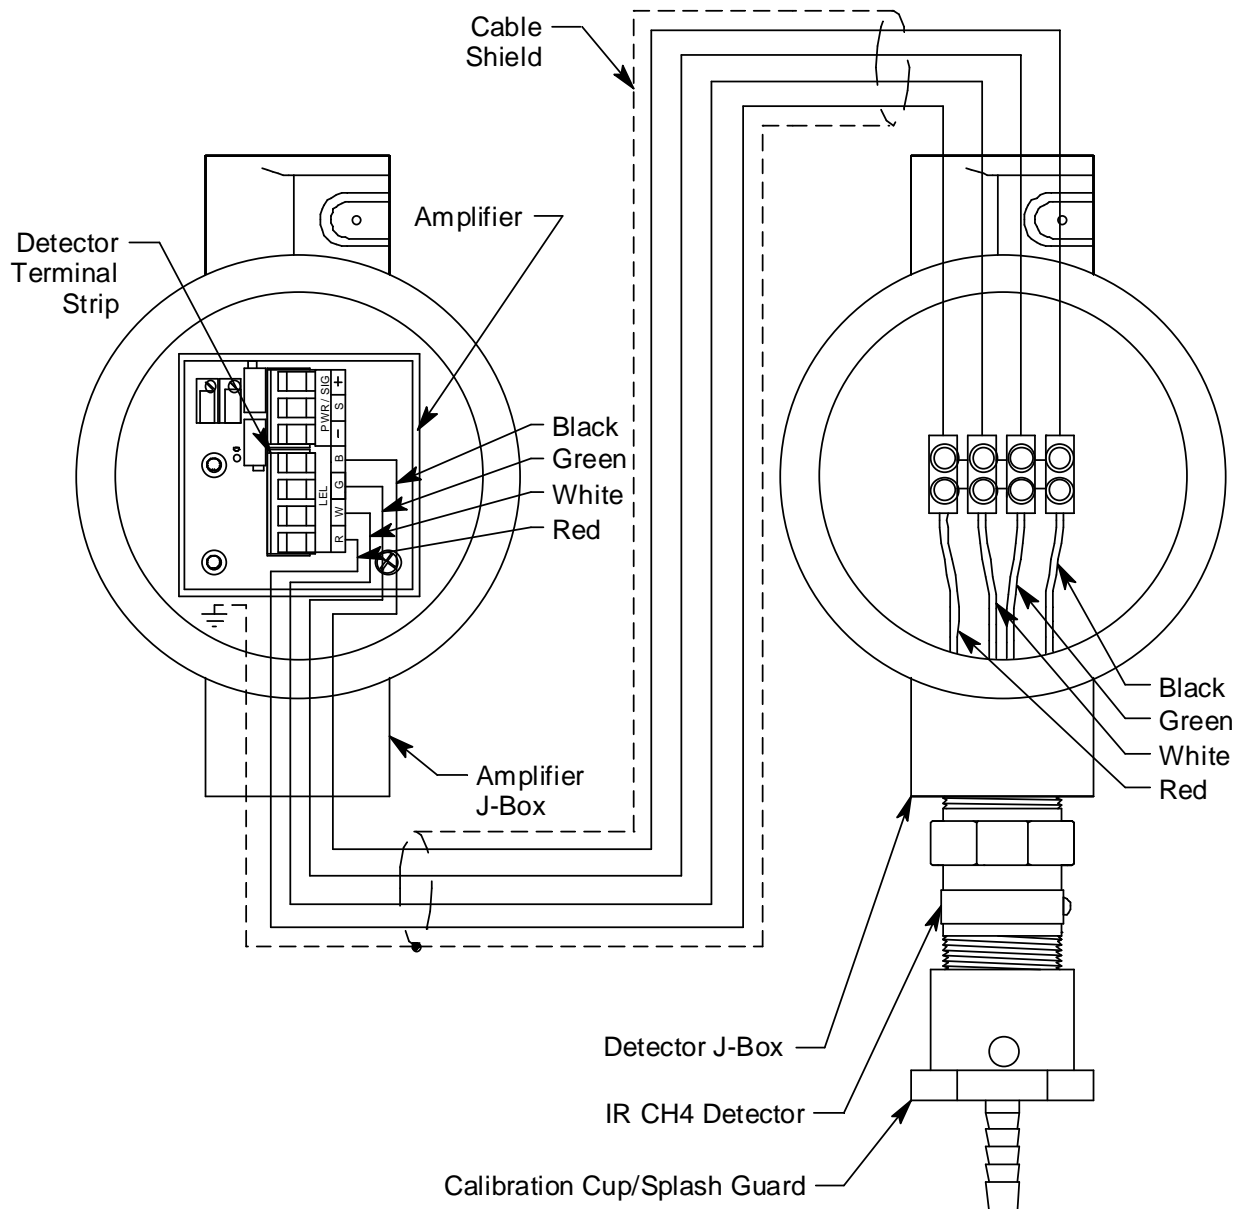

Figure 4: Wiring the Detector to the Amplifier
9. Pull out the detector terminal strip and connect the four wires to the terminal strip as follows (see Figure 4).
8. Connect the detector leads to the terminal block the same way the old detector was wired (see Figure 4 on page 12).